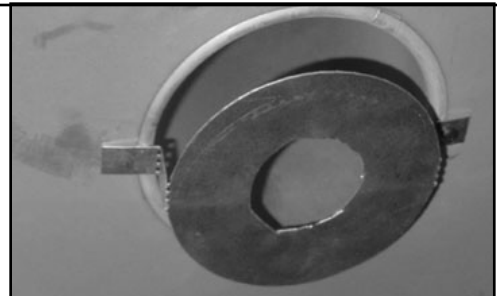

Figure 7.7a 12 ft to 30 ft Vertical Run
- Using the screws removed, install flue restrictor according to your installation requirements. See Figures 7.7a and 7.7b.